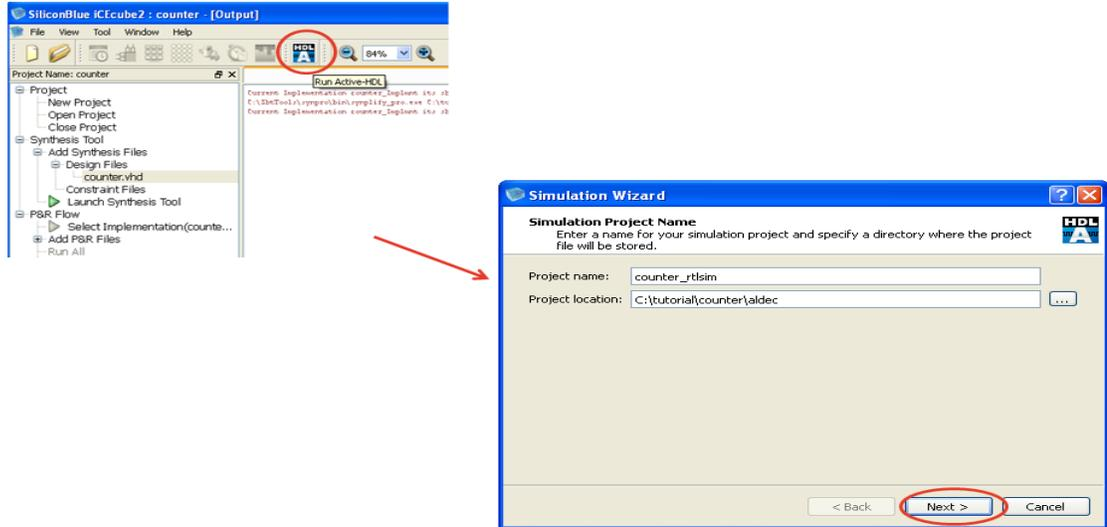

Figure 10-3: Launch Simulation Wizard and Specify Simulation Project name.
1. After creating iCECube2 project and added the RTL design files, launch simulation wizard by selecting the “AHDL” icon menu as shown in Figure 10-3. In the Simulation Wizard specify the simulation project name and simulation project location. The default project location is “Current iCECube2 project directory\aldec”. Click on “Next” icon.